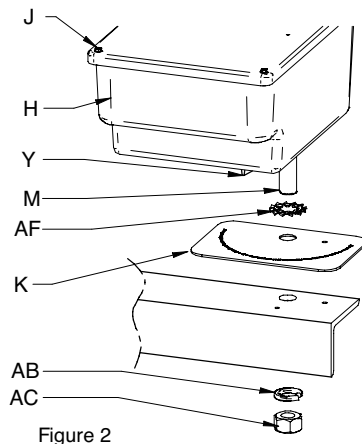

Figure 2
### Mounting Instructions (See Figure 2)
1. Use the aiming plate as a template and mark the center of the small hole on the crossarm (L). Note: Position the forward edge parallel to the crossarm mounting bracket.
4. Remove the nut (AC), slit washer (AB), and toothed washer (AF) from the main fixture mounting bolt (M).
5. Secure the fixture to the crossarm by placing the main fixture mounting bolt through the toothed washer (AF), the horizontal aiming plate (K), and the hole in the crossarm.
6. Replace the slit washer (AB) and nut (AC) on the main fixture mounting bolt and tighten to 150 ft. lbs. **IMPORTANT:** Parts must be assembled as shown in Figure 2.
### Wiring Instructions: (See Figures 2 & 3)
### Target Aiming Instructions: (See Figures 2, 4A, 4B, 4C)
To position the fixture horizontally: (See Figure 2)